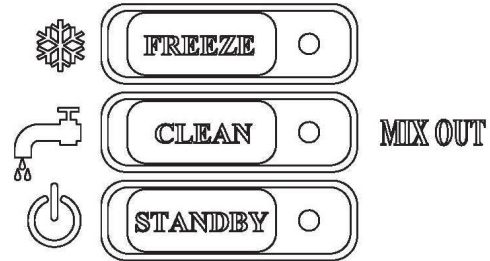
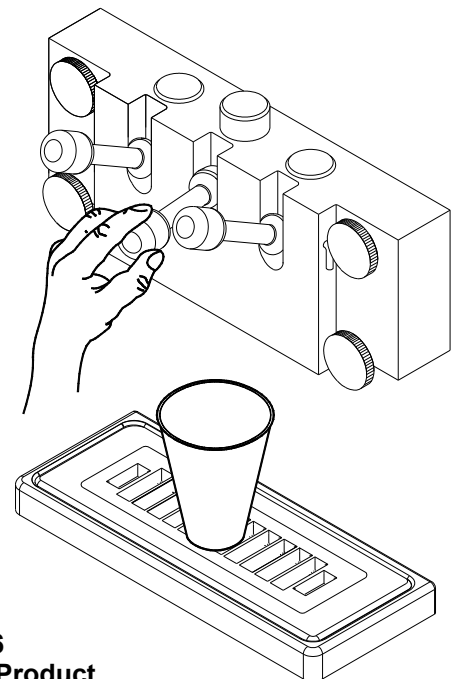

Fig. 2
Fig. 6
3. Level the unit by turning the bottom part of each leg clockwise or counterclockwise (Fig. 2). The machine **MUST** be level to operate properly.
2. Push the word "CLEAN" (Fig. 2) momentarily to verify the direction of rotation of the dasher. It should rotate counter-clockwise.
2. Push the word “**CLEAN**” and dispense all product from the freezing cylinder by pulling downward on the spigot handle (Fig. 6) to empty the machine. **NOTE: The buttons must be pushed and held in for 2 seconds to operate. This prevents mode changes from accidental contact.**
4. Push the word **"CLEAN"** (Fig. 2) and agitate for approximately 1 - 2 minutes and then drain the water by opening the spigots (Fig. 6). After the unit is empty, push the word **"CLEAN"** to turn off the machine.